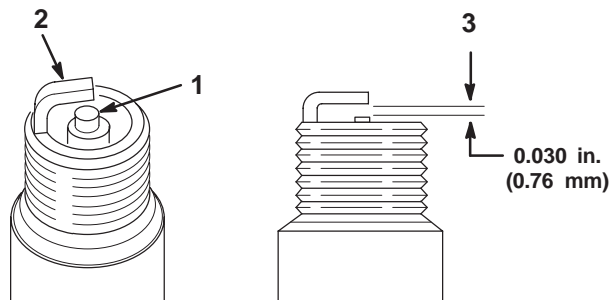

Figure 29
1. Look at the center of the spark plugs (Fig. 29). If you see light brown or gray on the insulator, the engine is operating properly. A black coating on the insulator usually means the air cleaner is dirty.
2. Check the gap between the center and side electrodes (Fig. 29).
3. Bend the side electrode (Fig. 29) if the gap is not correct.